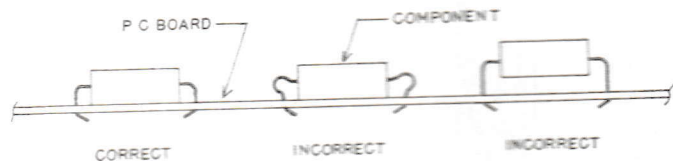

FIG. 8
- () The bodies of resistors and capacitors that lay down should contact the PC board. Refer to Fig. 8